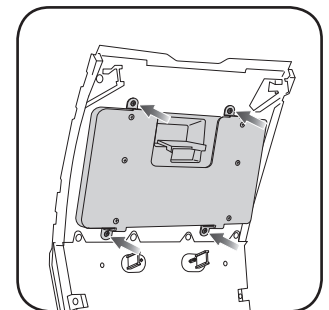

Fig. 3.6
6. Align the display assembly into the bezel and secure it with the four Phillips screws provided with the EDG3. (Fig. 3.6)